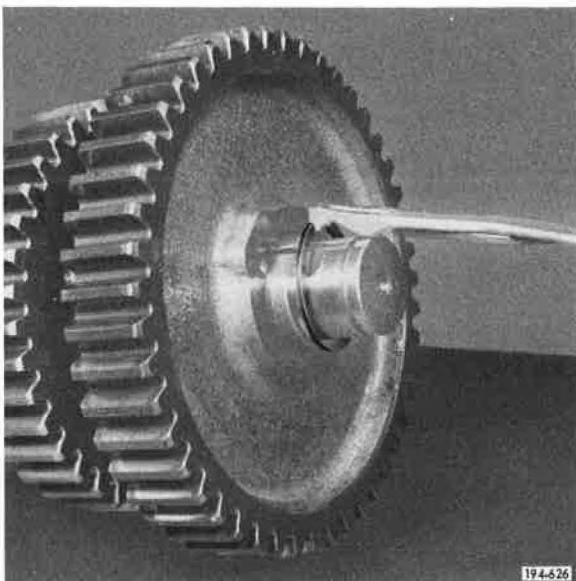

Figure 130. Removing Snap Ring
3. Remove countershaft gear retaining snap ring, using snap ring pliers J-25445, or equivalent. See Figure 130.